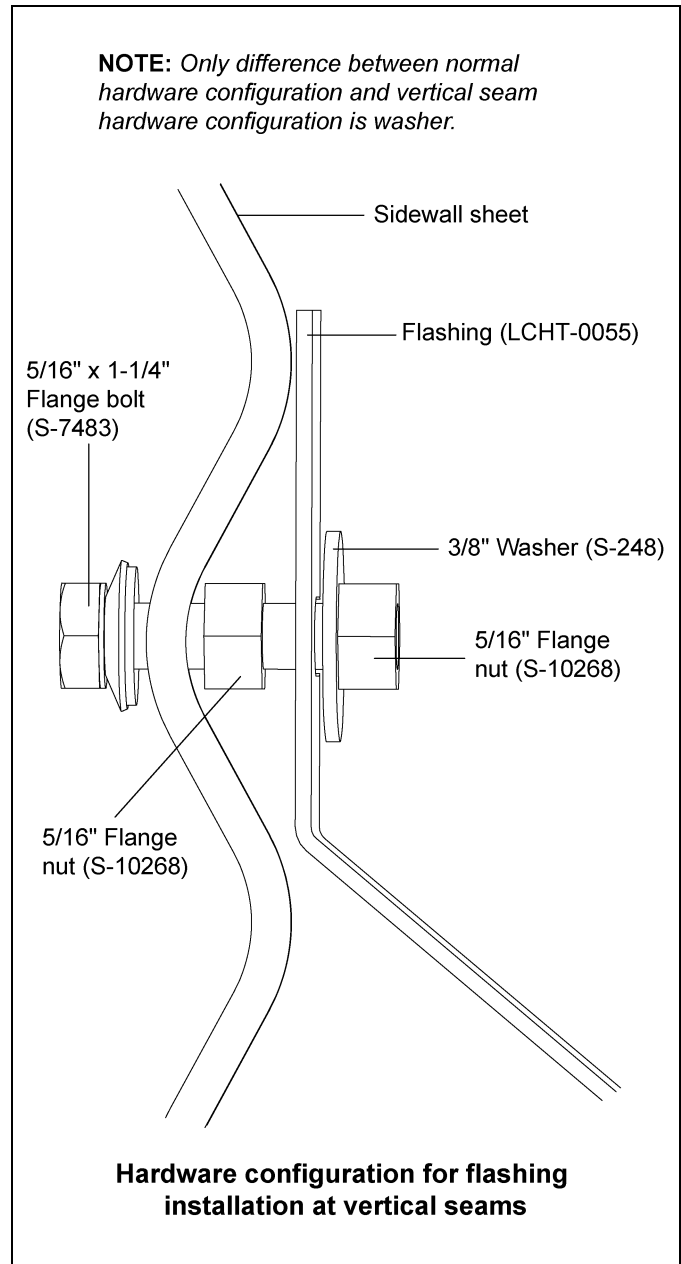
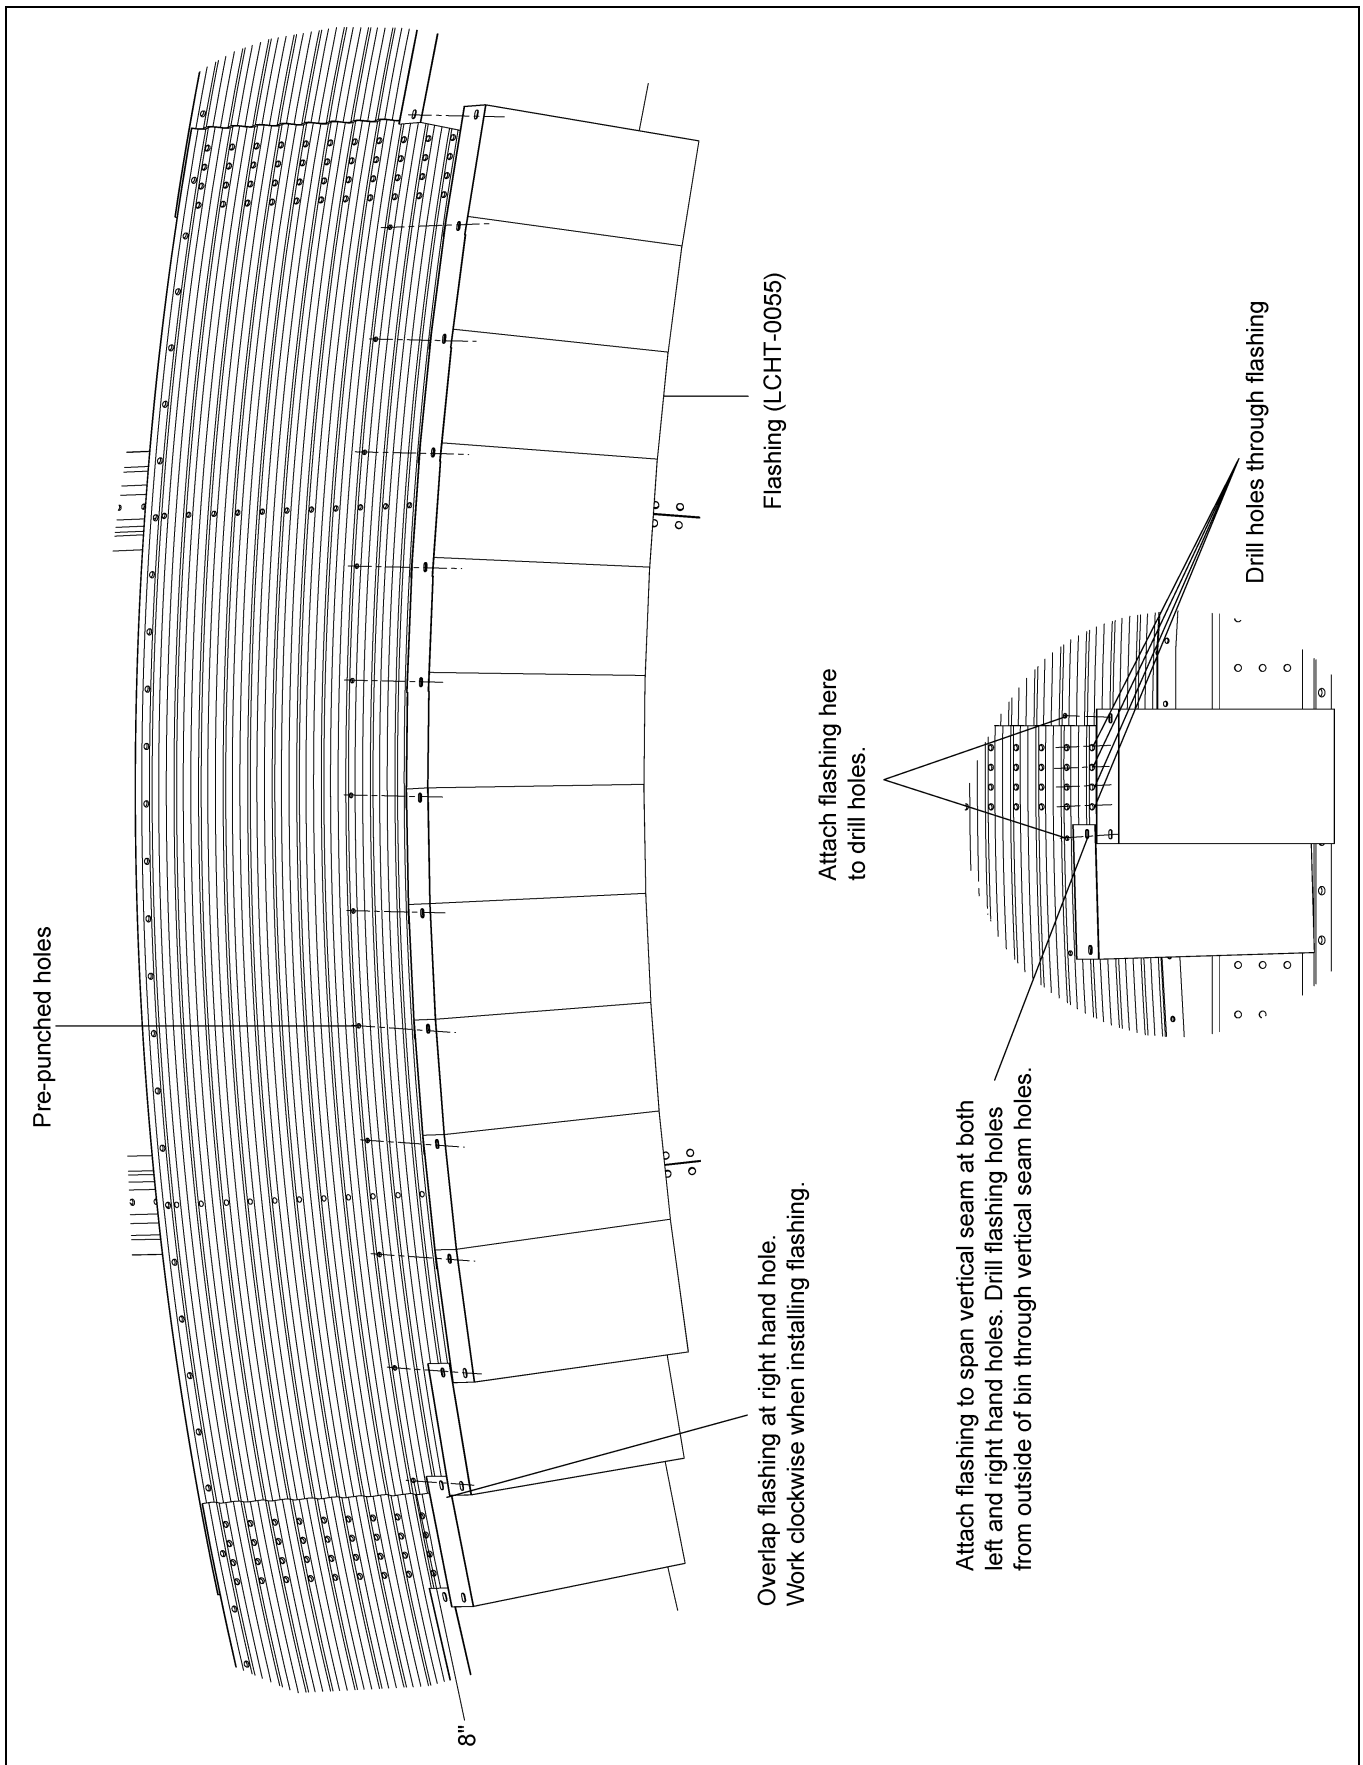

Figure 14B Vertical Seam Flashing Hardware
Figure 14C
3. At vertical seams attach flashing that is to span the vertical seams using both left and right holes. Drill flashing holes from the outside of the bin through the sidewall sheet holes. Remove drilled flashing and assemble vertical seam bolts and nuts. (See Figure 14C on Page 47.) Replace drilled flashing and attach according to Figure 14B. Continue around the bin clockwise.